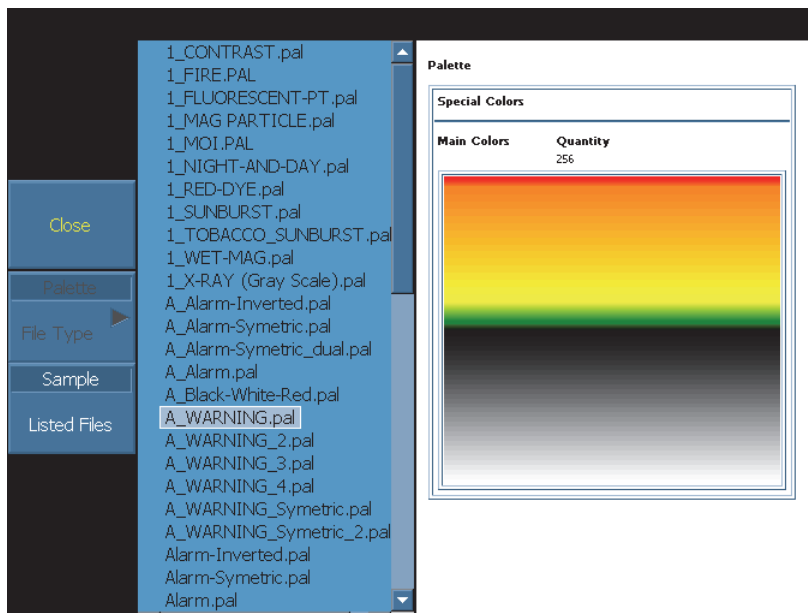

Figure 6-1 The color palette manager listing sample color palettes
1. Select **Display > Color > Load Palette** to open the color palette manager (see Figure 6-1 on page 112).